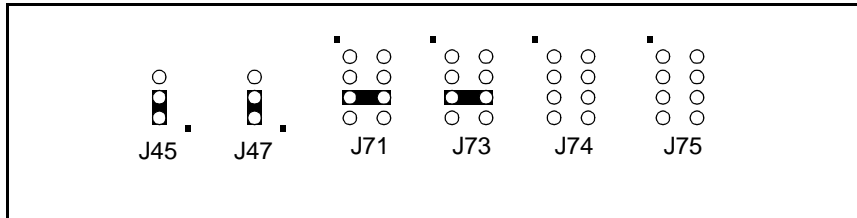

Figure 24 - Standard Demonstrations Jumper Settings
4. Check the Link Settings for each board are in ST-BUS 8Mb/s mode as shown in Figure 24: